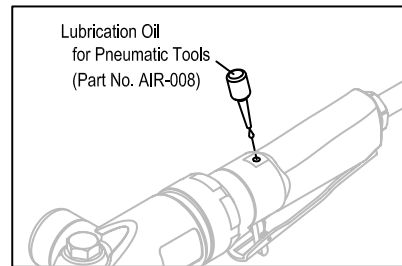

Figure 4
3. Add 4-5 drops of the Rust Inhibitor Oil into the oil port. (See Fig. 4)